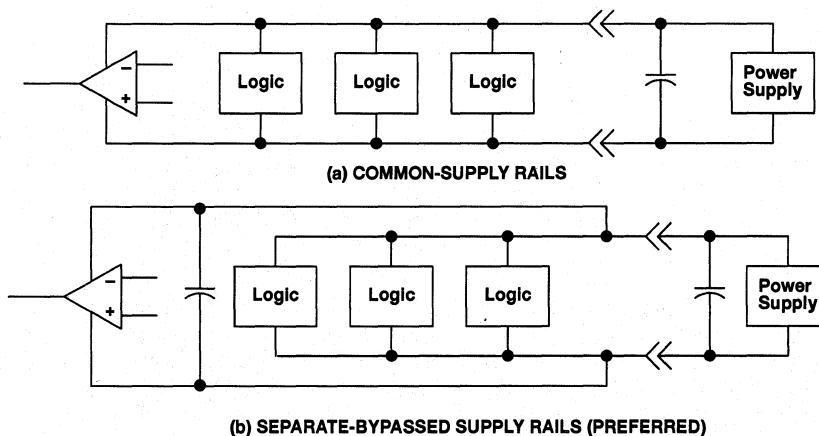

Figure 36. Common Versus Separate Supply Rails
- Power the linear devices from separate bypassed supply lines (see Figure 36); otherwise, the linear device supply rails can fluctuate due to voltage drops caused by high switching currents in the digital logic.